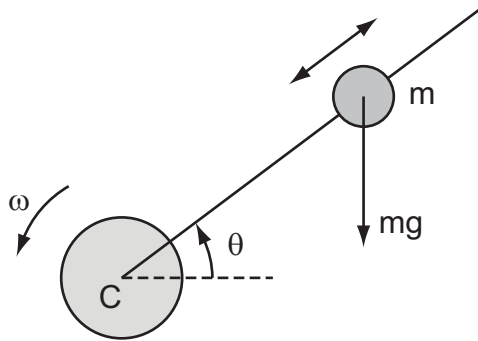

Figure 1: Bead moving along rotating bar
1. A bead of mass m moves along a inclined rigid bar. Friction between the bead and the bar is negligible. The bar rotates along a vertical plane and inclination of the bar is increasing at a constant angular velocity ω , as illustrated in Figure 1. Assuming that $\theta = 0$ at time $t = 0$, find the motion of the bead using Lagrangian formulation.